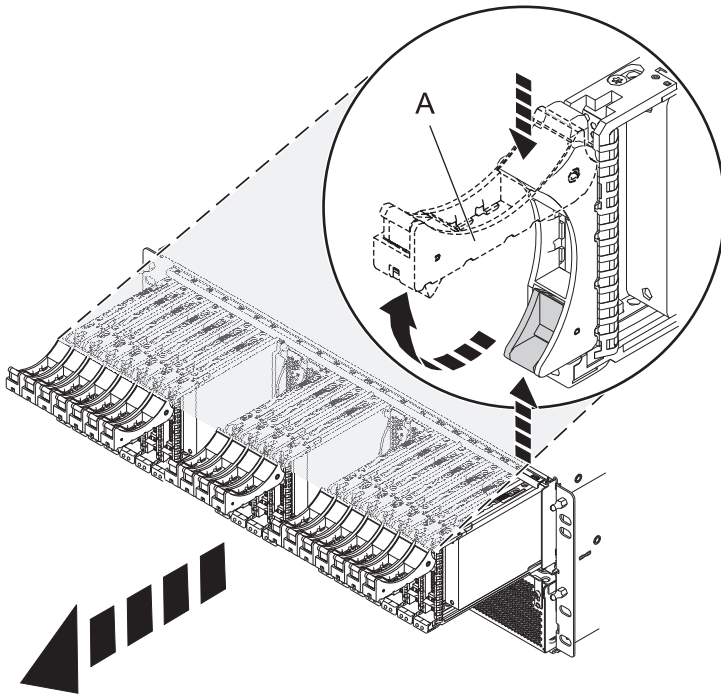

Figure 35. Removing the disk drives from the backplane
6. Remove the disk drives and fillers from the backplane in the 5802 expansion unit as shown in Figure 35. Record the location of each of the disk drives you remove. The disk drives must be reinstalled to the same location again.
- a. Squeeze the latch of the disk drive and pull the handle (A) toward you to release the drives.